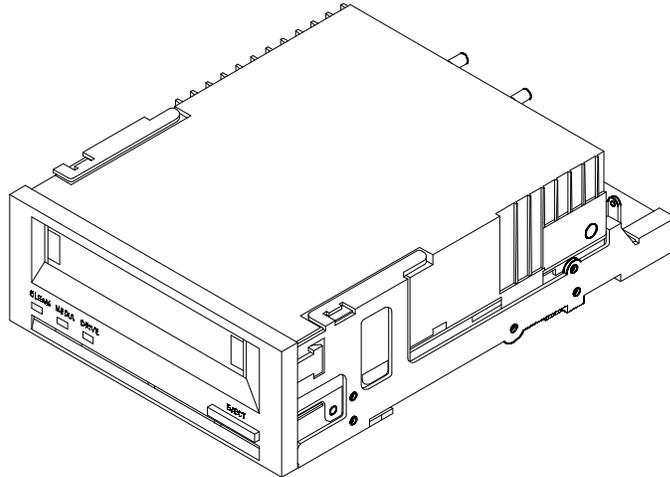

Figure 1. 3.5-Inch Internal Drive
- A 3.5-inch, half-height drive that mounts internally (see Figure 1)